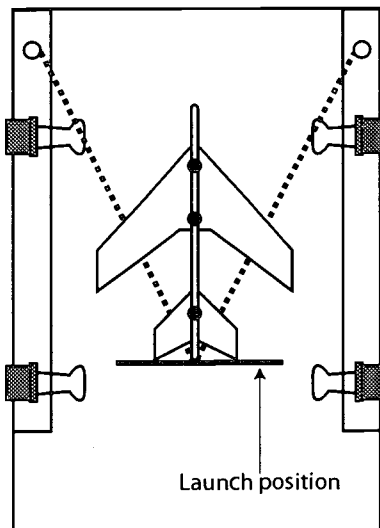

Figure 6
- C. Students should position the aircraft on the PGC as shown in Figure 6. The rubber band must always be below the fuselage and wings. Have students pull back the aircraft to the launch position. Make sure the bottom of the fuselage is resting on the PGC before the aircraft is launched. Have a student announce: "Clear the flight deck for aircraft catapult!" Have students launch aircraft.